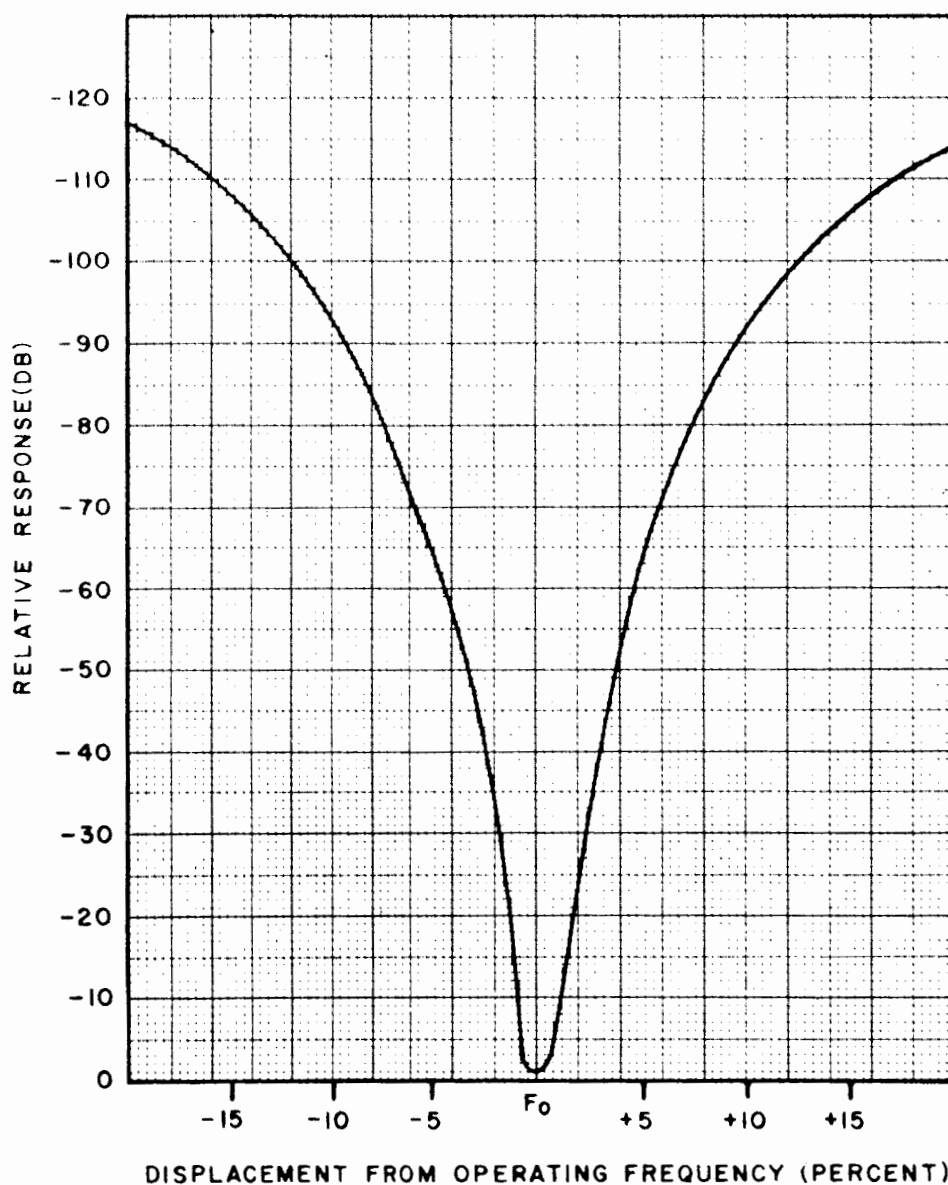

Figure 4-13 Radio Frequency Preselector Amplifier AM-4823/U
q. SELECTIVITY. - See Figure 4-13.